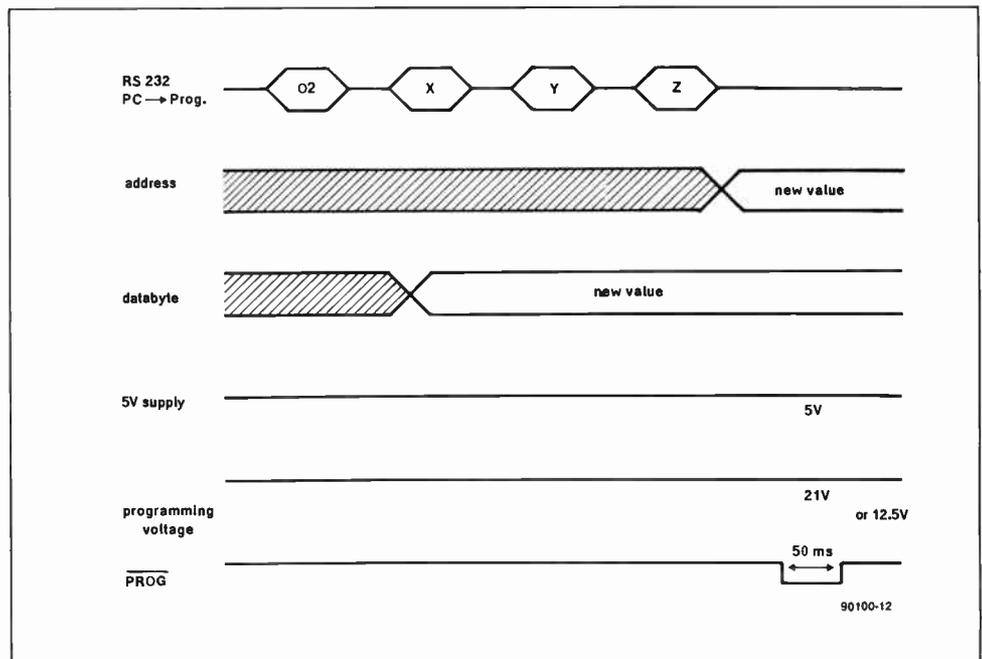

Fig. 1. Timing diagram for a programming operation.
- The timing of the data flow between the PC and the programmer is illustrated in the diagrams in Figs. 1 (program operation) and 2 (read operation).